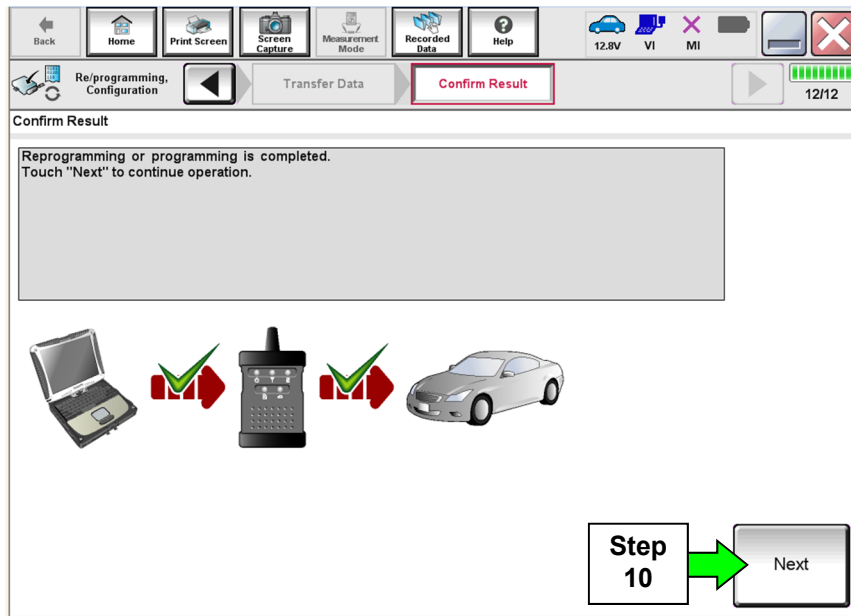

Figure 5
8. When the screen in Figure 5 displays, reprogramming is complete.
NOTE: If the screen in Figure 5 does not display (indicating that reprogramming did not complete), refer to ECM recovery on the next page.